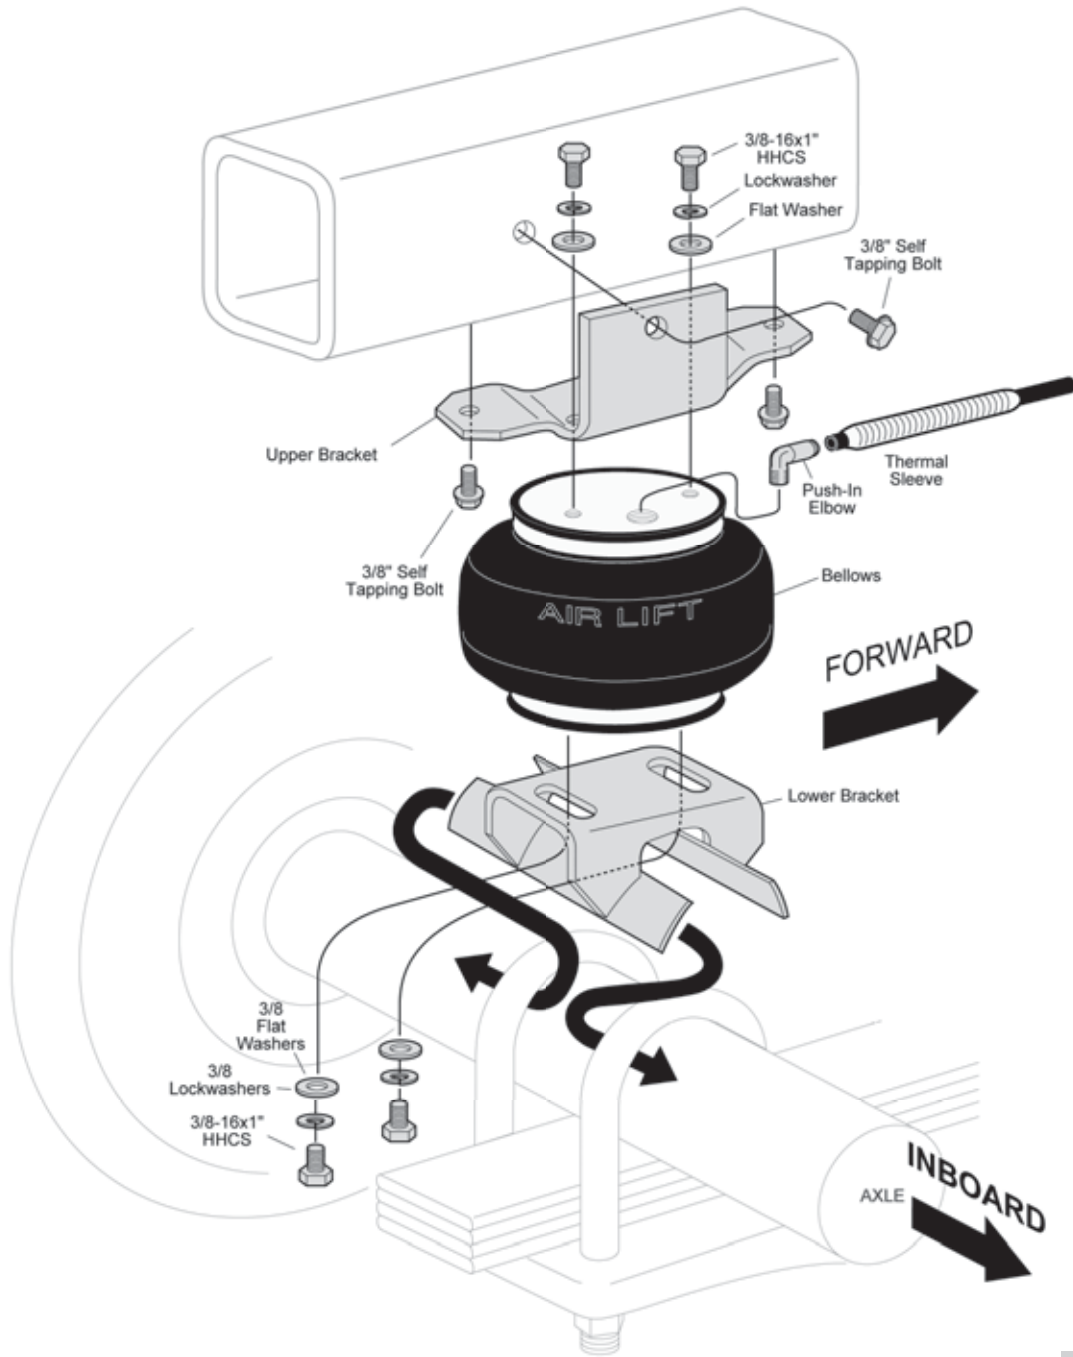

fig. 1
2. Loosely attach the lower bracket to the bottom of bellows with two 3/8”-16x1 hex head bolts, two 3/8” lockwashers, and two 3/8” flat washers. (Figure 1)
4. Attach the upper bracket to the top of the bellows with two 3/8”x16x1 hex head bolts, two 3/8” lockwashers, and two 3/8” flat washers. Torque to 15-20 ft.lbs. (Figure 1)
6. Remove the rubber jounce bumper. Set the air spring assembly on the axle housing, sliding the tabs of the lower mounting bracket under the u-bolts (Figure 1).
7. With the air spring align the air spring and mark the locations for drilling the holes for the upper bracket, one on each side of the bracket into the bottom of the square section frame rail and one on the inside of the frame rail (Figure 1).
*To prevent air line from melting, keep it at least twelve inches from exhaust system. Use thermal sleeve on exhaust side (Figure. 1)*